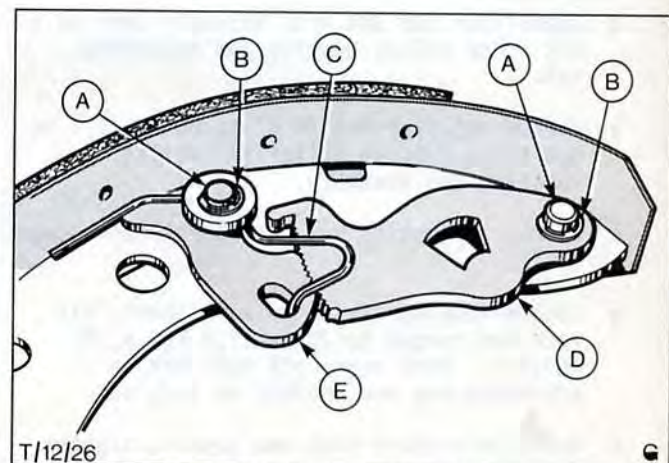

Fig.35. Leading brake shoe assembly.
9. Assemble leading shoe and auto adjust ratchets, apply smear of lubrication between ratchets and shoe web, Fig.35.